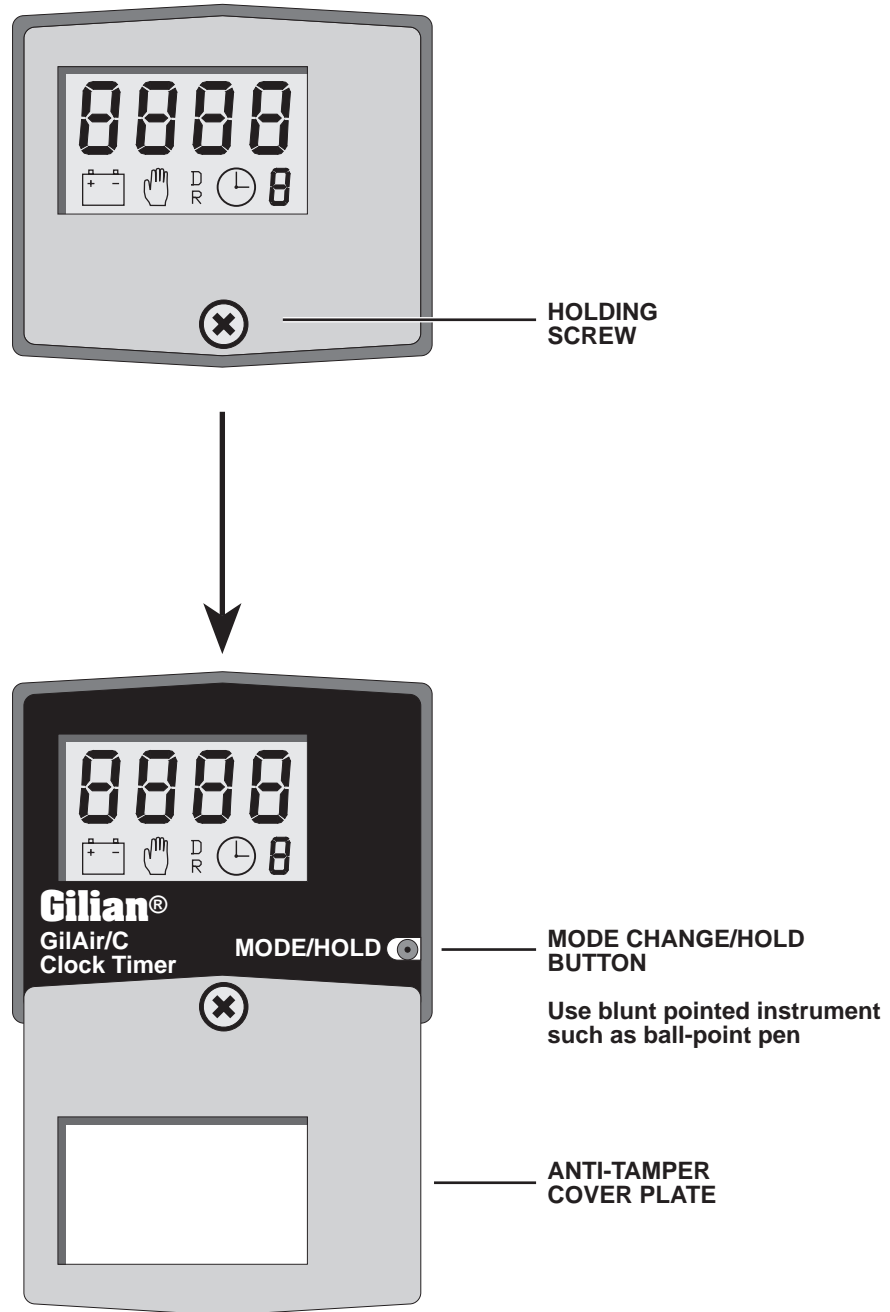

Figure 2.1
1. With the left side anti-tamper cover open (see Figure 2.1), the sampling operation may be interrupted for breaks or lunches by pressing the MODE/HOLD button for at least 1 second. The pump will stop and a “Hand” icon will appear flashing in the display window.